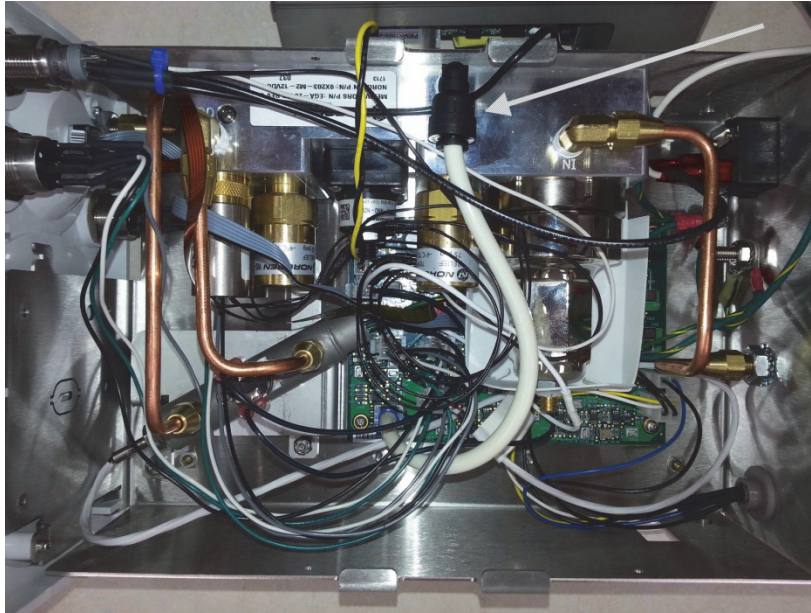

Figure 4
7. Remove the Pressure Sensor Tubing from the quick connect fitting on the top of the Manifold. See figure 4. You can achieve this by pressing the locking ring into the quick connect fitting while pulling the tubing from the fitting. Take care not to stress the other end of the tubing that attaches to the Pressure Sensor on the Control Board.